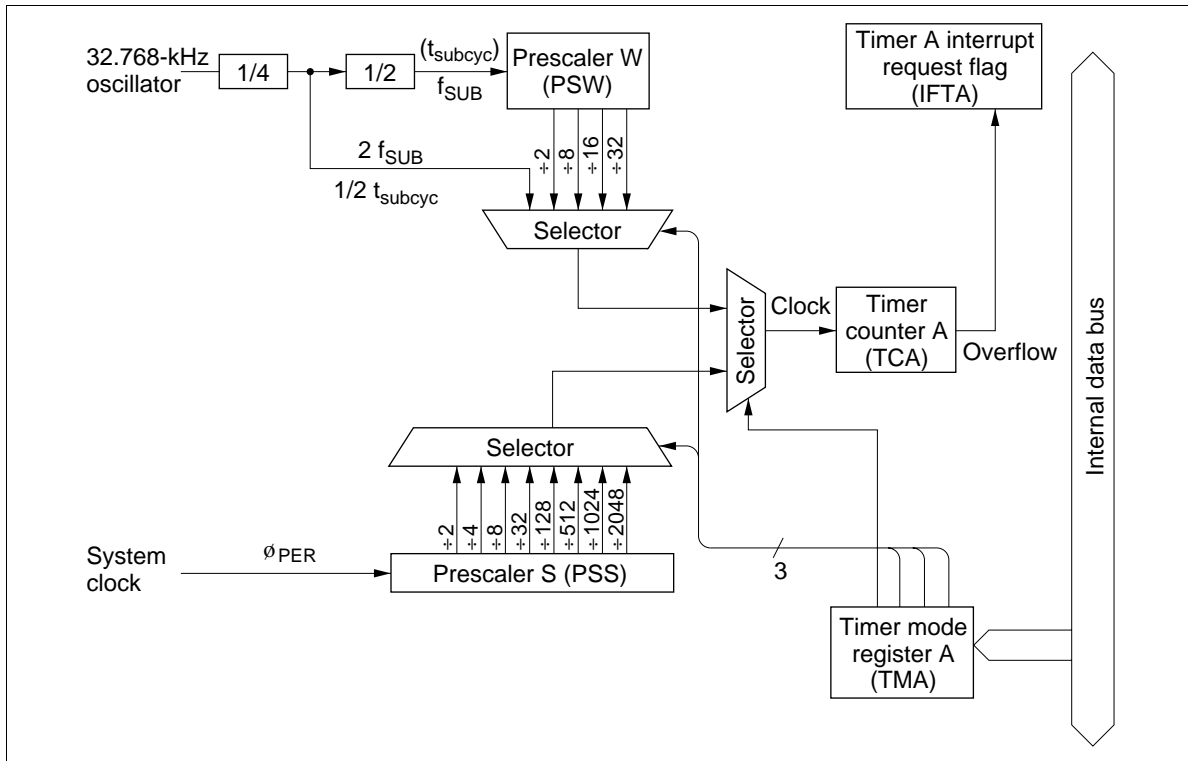

Figure 25 Timer A Block Diagram
The MCU provides prescalers S and W (each with a different input clock source), and three timer/ counters (timers A, B, and C). Figures 25, 26 and 27 show their diagrams.
**Timer A Operation:** After timer A is initialized to \$00 by MCU reset, it counts up at every clock input signal. When the next clock signal is applied after timer A has counted up to \$FF, timer A is set to \$00 again, and an overflow output is generated. This sets the timer A interrupt request flag (IFTA: \$001, bit 2) to 1. Therefore, timer A can function as an interval timer periodically generating overflow output at every 256th clock signal input (figure 25).